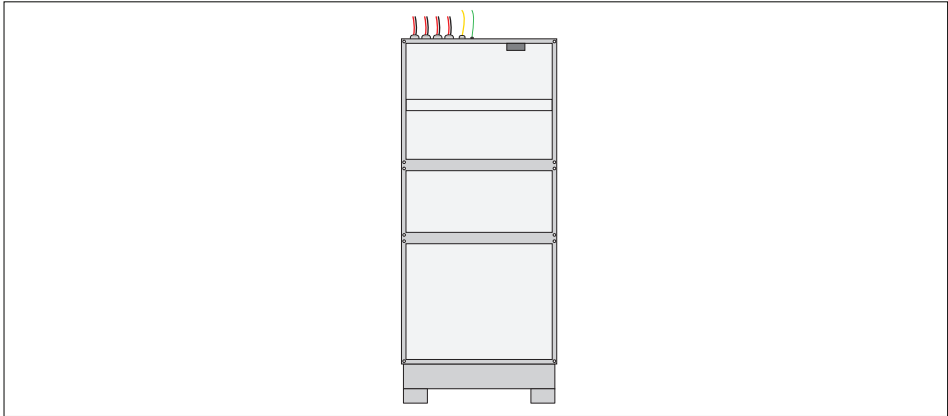

Figure 4: Battery Enclosure with the feet attached and ready for installation.
3. Once the feet are fixed, the Battery Enclosure is ready for installation as shown in Figure 4.